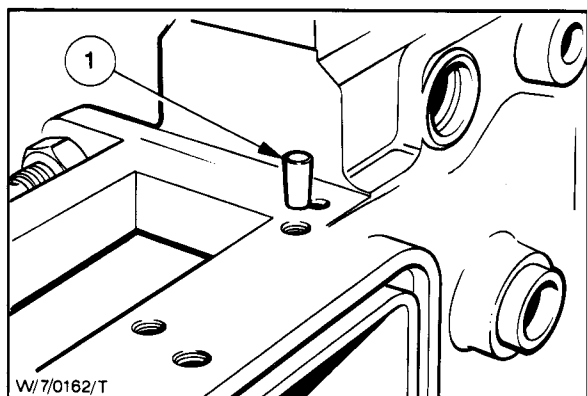

Fig. 52 - Control Rod Front Bush (Dorset)
1. Remove the rubber insert from the hole above the bush. Drive the bush retaining pin through the bush and remove it from the bush bore (Figs. 52 and 53).